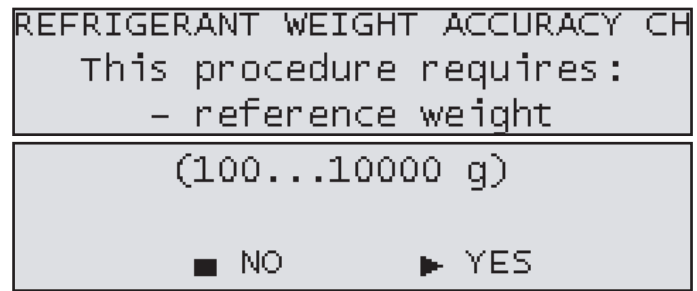

Fig. 34: Refrigerant weight check screens
5. Press **YES** (**→**) to continue when the screen in Fig. 34 appears.